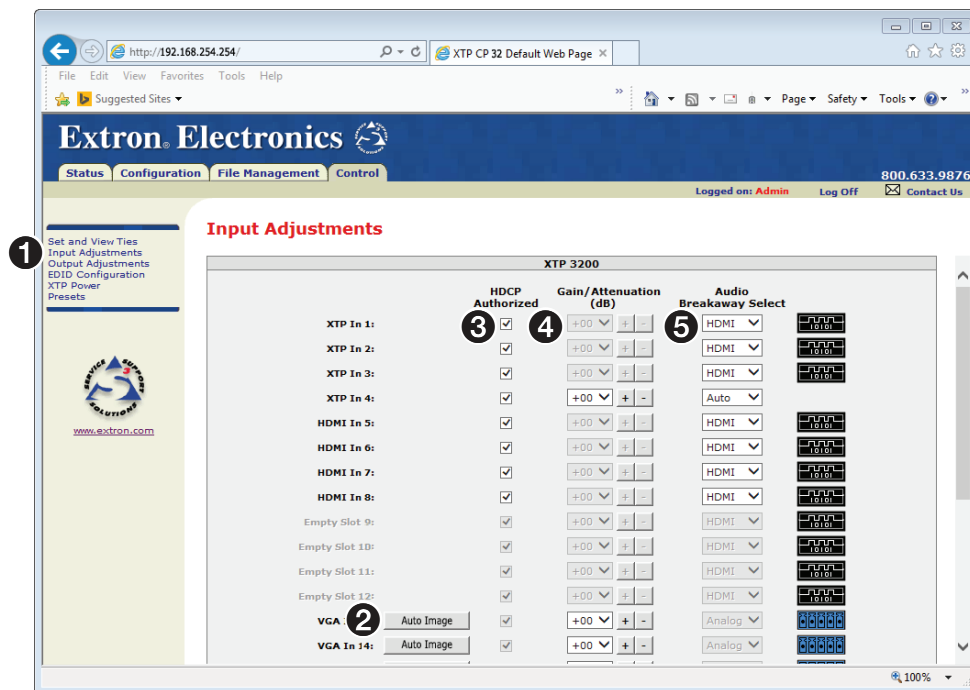

Figure 69. Input Adjustments Page
The **Input Adjustments** page is a central location for changing how input video and audio are processed and switched. Access the page by clicking the **Input Adjustments** link (see figure 69, ❶) on the left of the **Set and View Ties**, **Output Adjustments**, **EDID Configuration**, **XTP Power**, or **Presets** page.